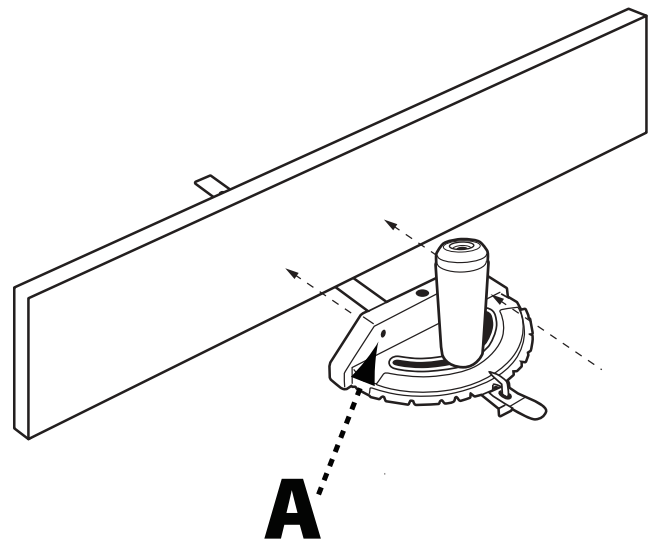

FIGURE 30
This auxiliary wood facing can be fastened to the front of the miter gauge by using two wood screws through the holes (A) provided in the miter gauge body and into the wood facing. See Figure 30. Make sure the screws are long enough to secure the facing, but do not extend all the way through the wood.